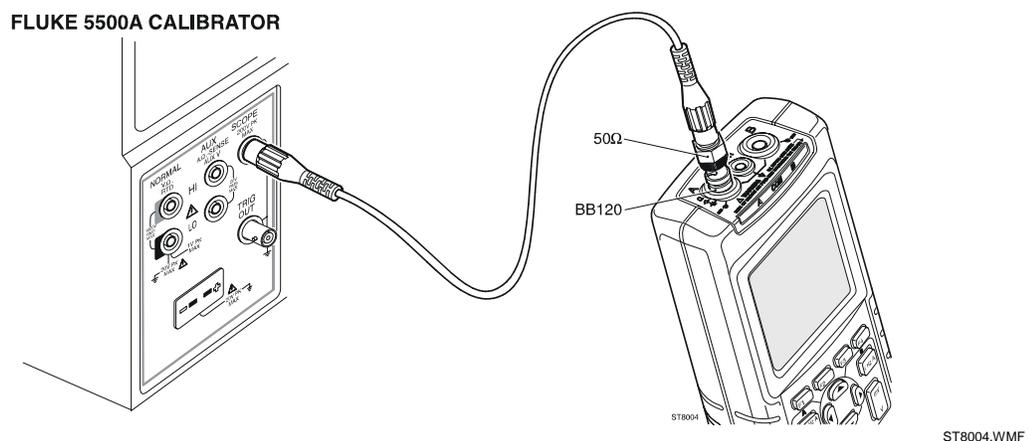

Figure 4-4. 5500A Scope Output to Input A
2. Connect the test tool to the 5500A as shown in Figure 4-4.